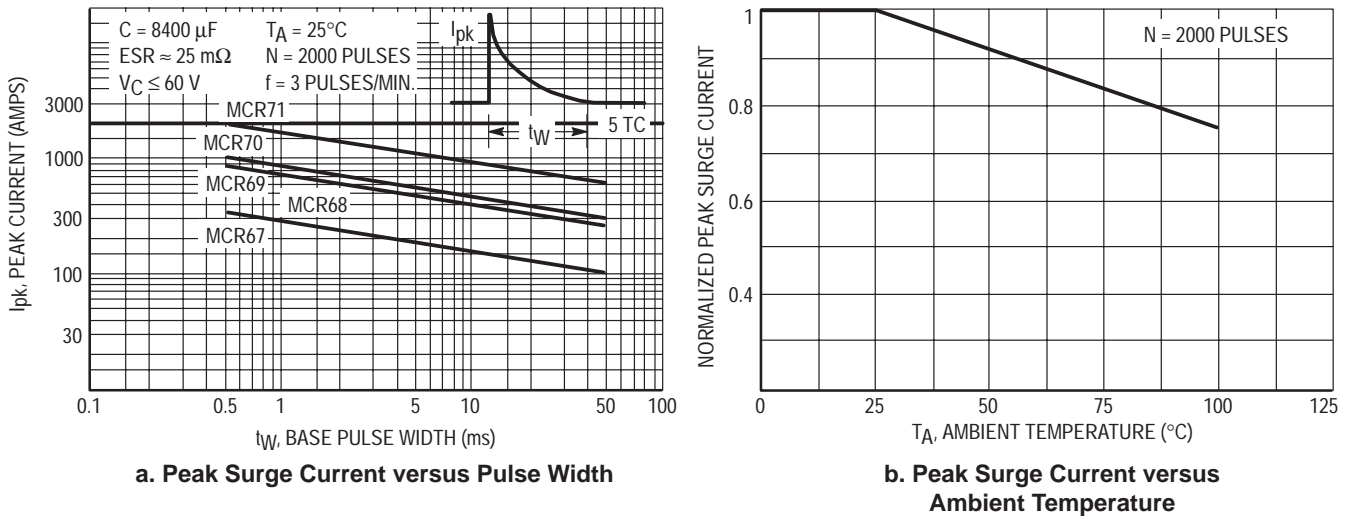
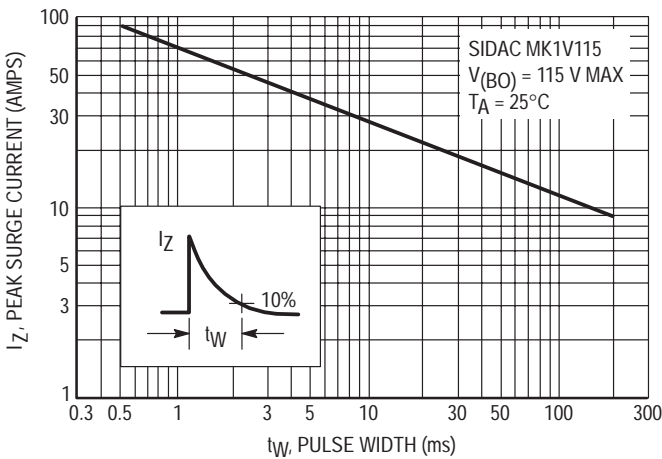

Figure 10. SCR Crowbar Derating Curves
Figure 11. Exponential Surge Current Capability Of The MK1V SIDAC, Pulse Width versus Peak Current
All devices were surge current tested with the resultant peak currents being impressively high. The TO-220 (150)2 mil SCR MCR69 for example, reached peak current levels approaching 700 A for a 1 ms exponential pulse. The guaranteed, derated, time base translated curves for the crowbar SCR family of devices are shown in Figure 10, as is the MK1V SIDAC in Figure 11.